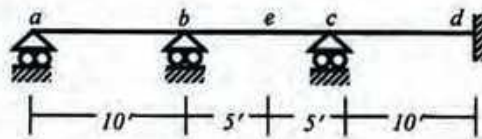

Fig.13
14. For the beam shown in *Fig.13* calculate the maximum positive value of M_e , if the beam is subjected to a uniformly distributed DL = 1.5 k/ft and moving LL = 0.5 k/ft (uniformly distributed) and 3 k (concentrated) [Given: $EI = \text{Constant}$].